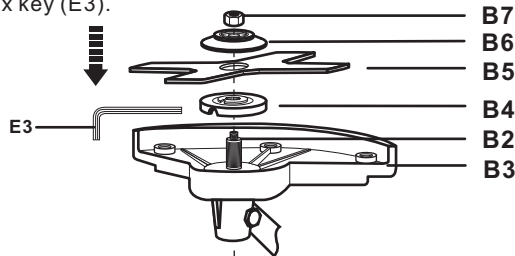

Fig. 4
7. Secure the blade (B5) with the safety nut (B7) anticlockwise using socket wrench multi tool (E1).(See Fig. 4)